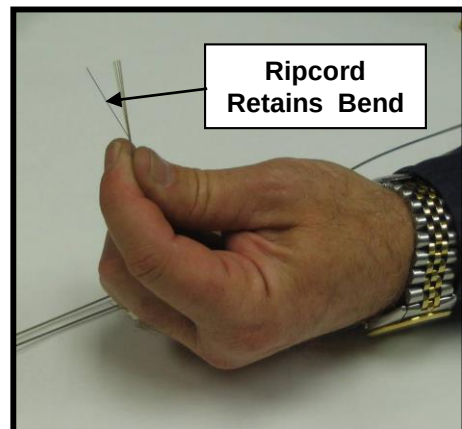

Figure 9
6.4.3 The Fiber Strands will return to their original position "straight" while the Polyester Ripcords will retain some or all of the bend and make them easy to identify. **See Fig. 9.**